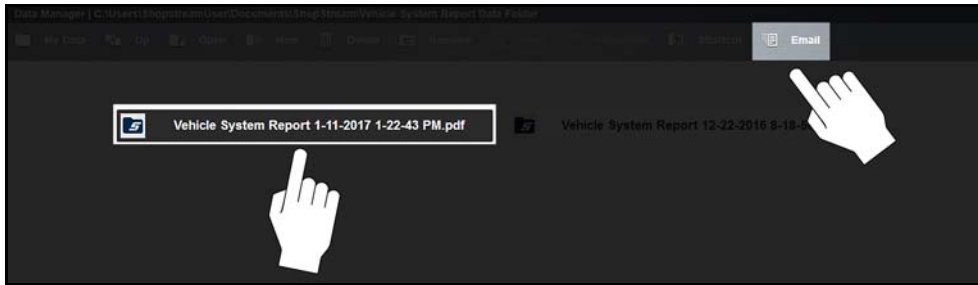

Figure 11-3
1. From the Data Manager main screen, select a file from within one of the folders (e.g. Camera, Scanner Data, Scope Multimeter, etc). In this example (Figure 11-3), a Vehicle Systems Report was chosen from the Vehicle Systems Report Data Folder.